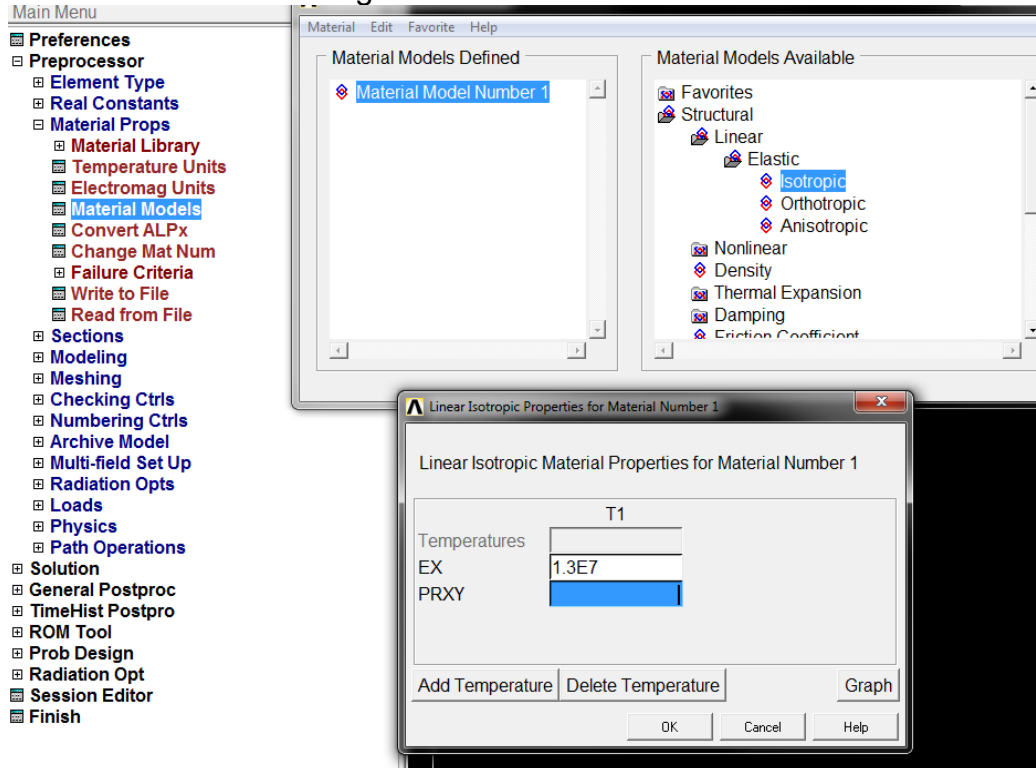

Figure 5: Material Properties
- Select, in order, **Structural/Linear/Elastic/Isotropic** in the pop-up window, as shown in Figure 5. This defines the material behavior model used for each element it is assigned to. For this simulation, the material will exhibit a perfect linear elastic stress/strain relationship, with elastic constants uniform in each direction.